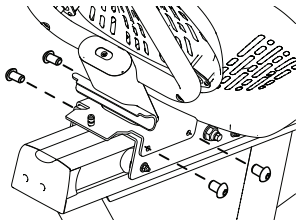

Figure 6
- Position the seat back assembly so that its four screw holes line up with the holes on the seat carriage bracket (Figure 6).